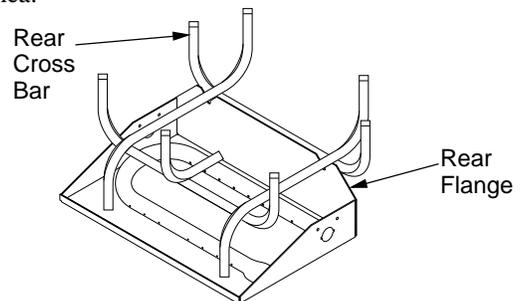

Figure 17 - Assembling Grate and Pan
1. Remove grate from box and place in pan as shown in Figure 17. Make sure the rear cross bar is behind rear flange.